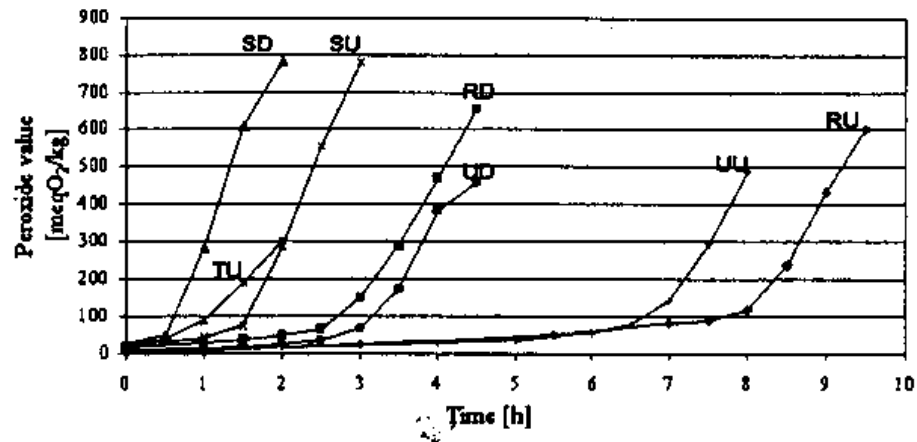

Fig. 1. Peroxide value determination along Rancimat test, according to NF T 60-220.
Fig. 1. Rancimat modified oxidation tube. (1) Air inlet pipe. The pipe stops at 2.5 cm from the sample surface; (2) Biodiesel sample, 3 g; (3) Heating block, capable to reach and maintain the temperature of 80 °C (accuracy ± 0.1 °C).